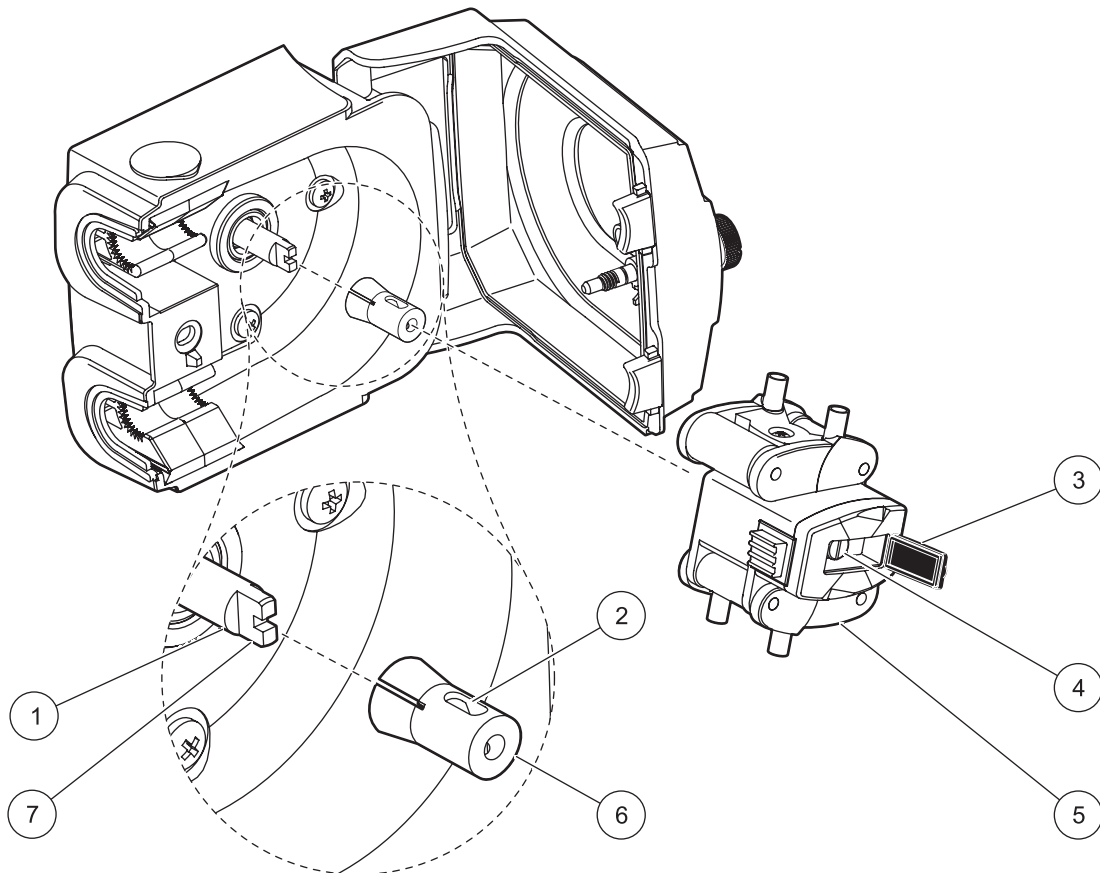

Figure 25 Pump rotor removal
2. Open the rubber flap on the end of the rotor and remove the screw with a flat-blade screwdriver (Figure 25).
3. Remove the rotor. A collet connects the rotor to the pump shaft and can come off when the rotor is removed (Figure 25).
5. If the collect was removed in step 3, align the recess in the collet with the tang on the shaft and push the collet on the shaft (Figure 25).